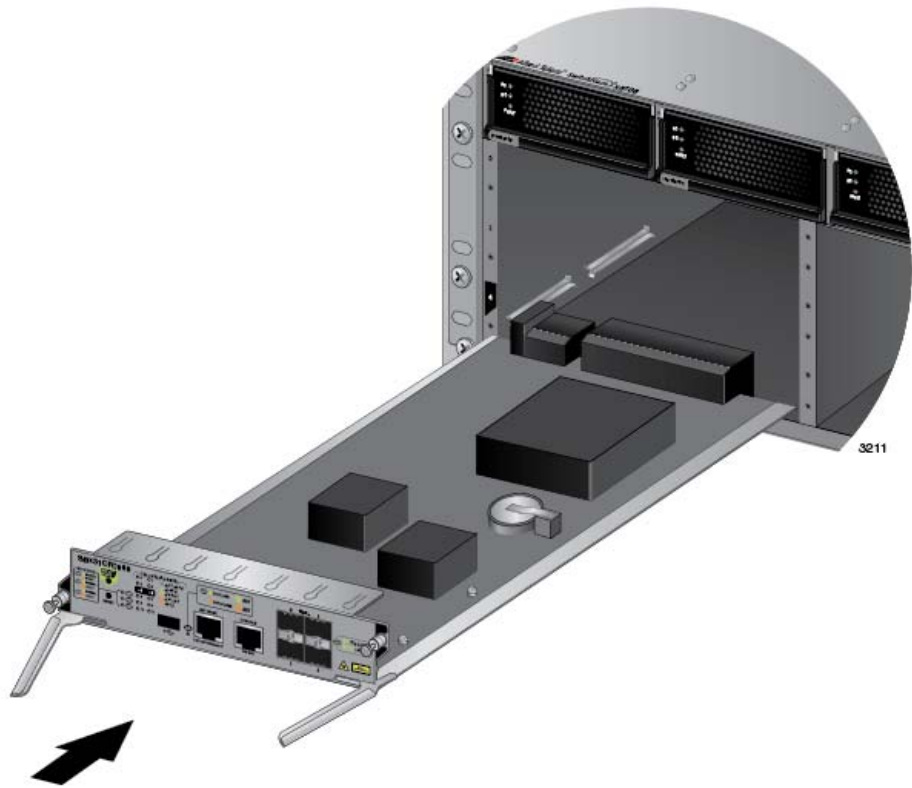

Figure 78. Aligning the AT-SBx31CFC960 Card in Controller Card Slot 4
6. Align the edges of the AT-SBx31CFC960 Card with the internal chassis card guides in controller card slot 4 or 5 of the AT-SBx3106 Chassis. Figure 78 on page 139 shows the AT-SBx31CFC960 Card aligned in slot 4.